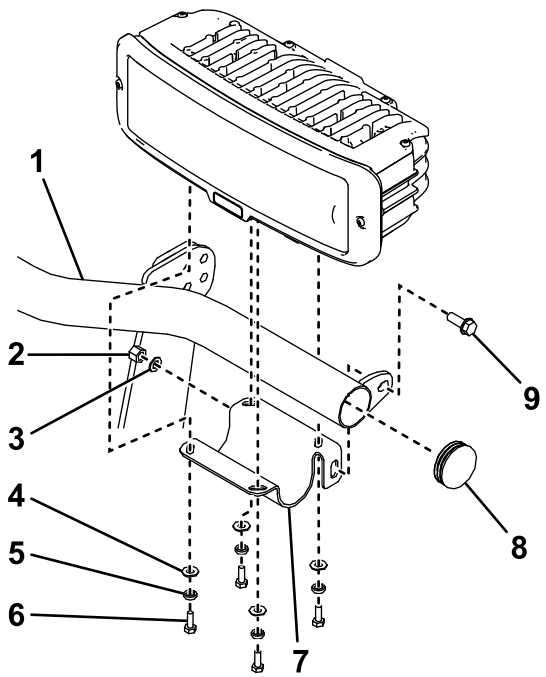

Figure 12
2. Ensure that the end caps are installed on the ends of the light bar (Figure 12).
3. Secure the left headlight-bracket to the light bar using a flange-head bolt (3/8 x 1 inch), a flat washer, and a nylon locknut (Figure 12).
4. Secure the left headlight to the headlight bracket using 4 bolts (1/4 inch), split lock washers, and flat washers (Figure 12).